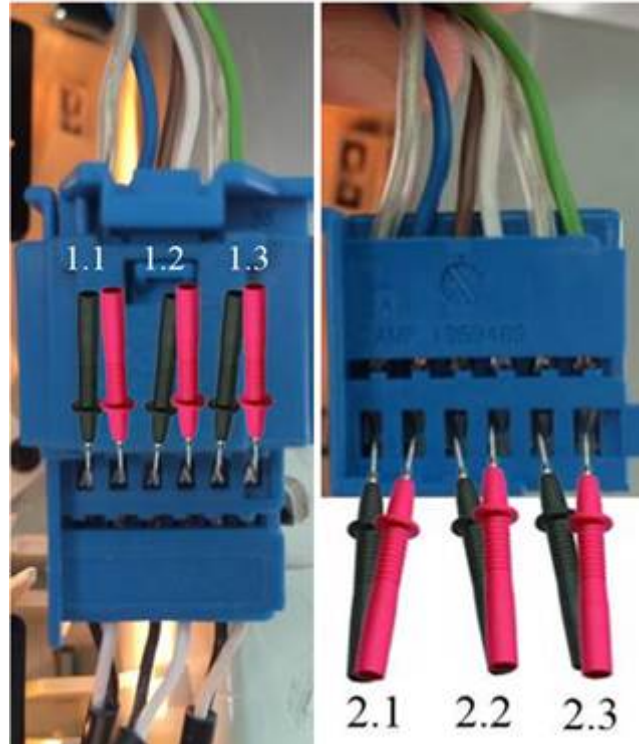

Figure 1. Microphone connection. Protective covers have been removed to show pin locations.
- Gain access to the microphone connection in the overhead console (Figure 1). Note that the number of microphones will vary depending on model. With a DVOM, perform the following voltage measurements: